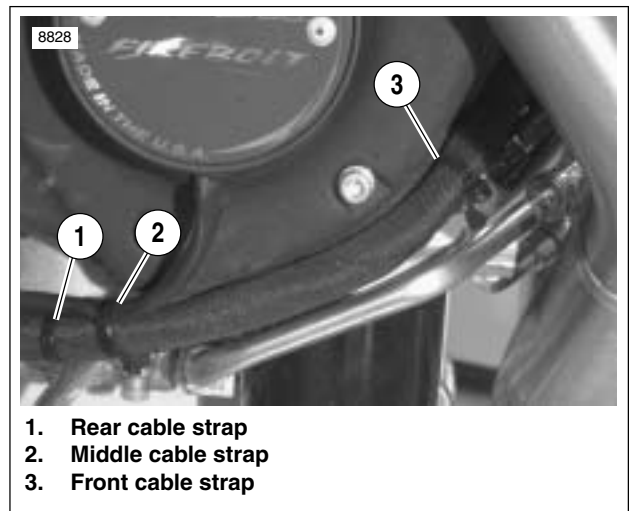

Figure 7-78. Cable Straps
11. See Figure 7-78. Install cable straps:
- a. Front cable strap (3) secures voltage regulator and oil pressure switch wiring.
- b. Middle cable strap (2) secures voltage regulator, oil pressure switch and cam position sensor wiring.
- c. Rear cable strap (1) secures conduit to voltage regulator wiring.